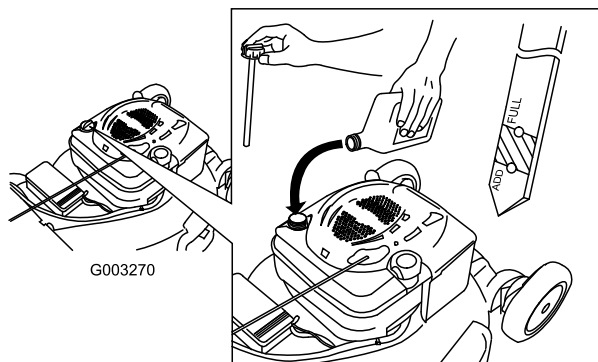

Figure 13
1. Remove the dipstick, wipe it clean, and fully install the dipstick (Figure 13).
2. Remove the dipstick and check the oil level (Figure 13). If the oil level is below the Add mark on the dipstick, **slowly** pour oil into the oil fill tube to raise the oil level to the Full mark on the dipstick. **Do not overfill.** (Max. fill: 20 oz. (0.59 l), type: SAE 30 detergent oil with an API service classification of SF, SG, SH, SJ, SL, or higher.)